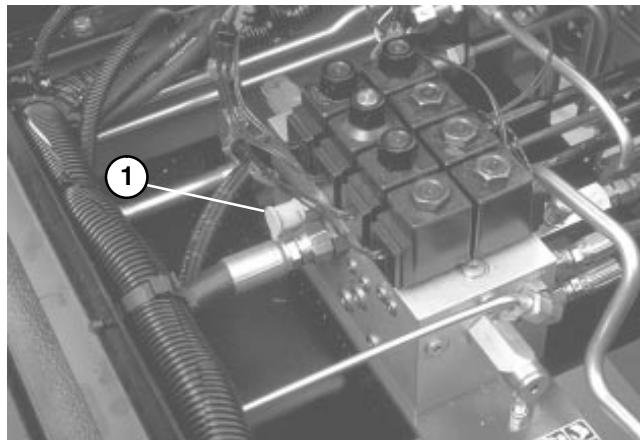

Figure 53
1. Test Port "A" (Fig. 53) is used to assist in trouble shooting the hydraulic circuit for the front cutting units and lift cylinders.